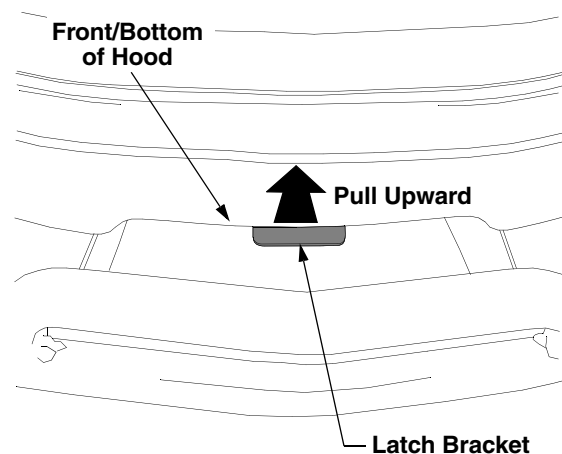

Figure 9
- Locate the latch bracket at the bottom/center of the front of the hood. See Figure 9.